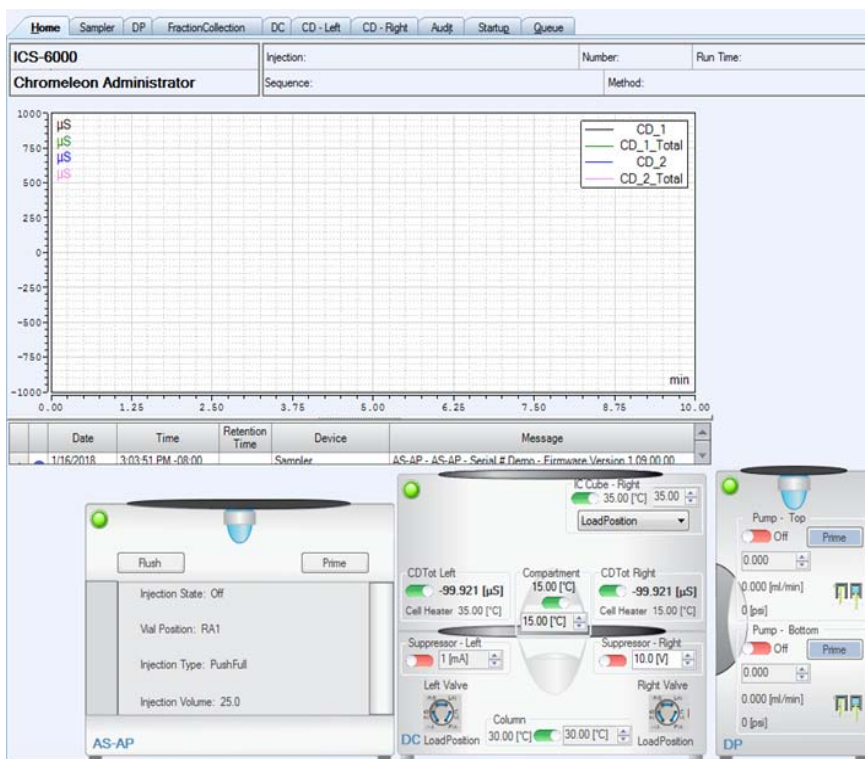

Figure 3-25. Example Chromeleon ePanel Set
2. Click the **Instruments** category bar. Chromeleon connects to the instrument and displays the ePanel Set (see Figure 3-25).